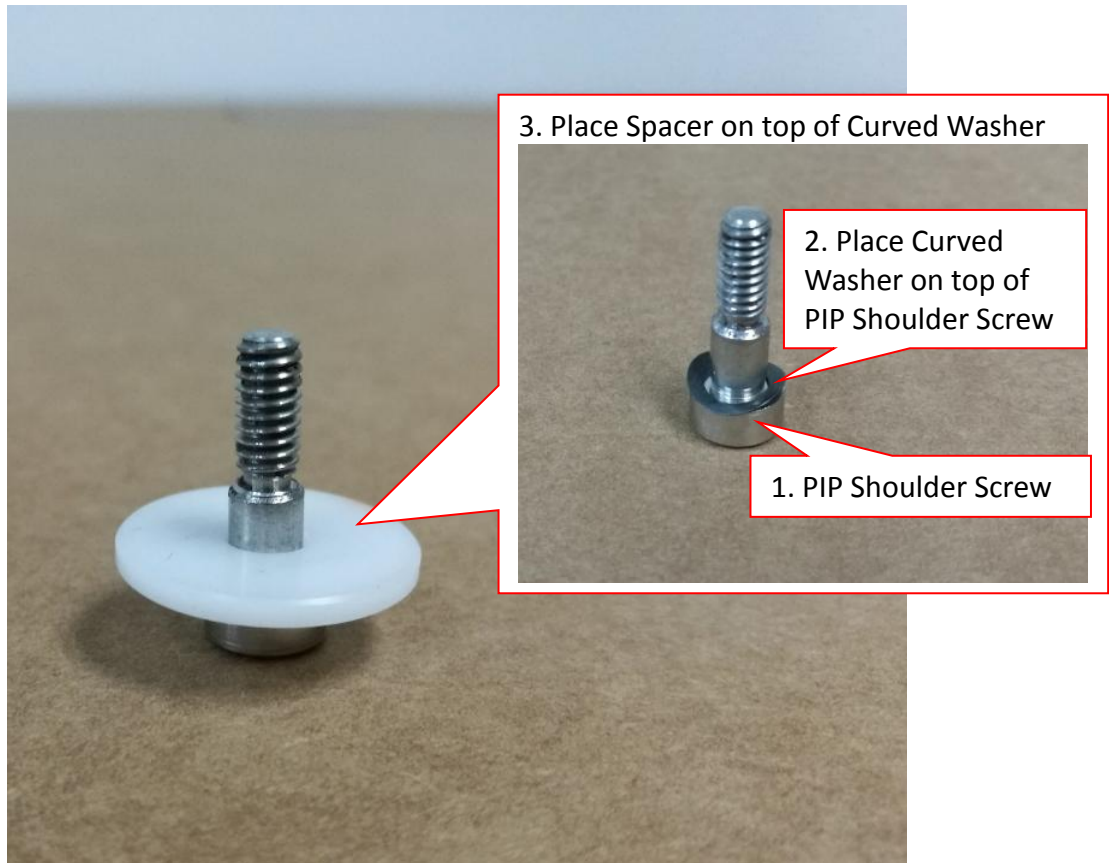

Figure 5 PIP Shoulder Screw Assembly
3. Arrange below fastening kit by refer below sequence. May refer to Figure 5.